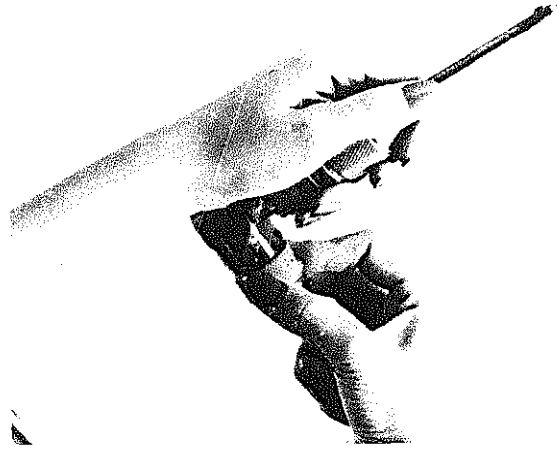

Fig. 10-32 Setting the ratchet.
1. Turn the cam ring as shown in figure 10-32. Turning the cam ring clockwise allows the bit to turn right and gives ratchet action when the handle is turned left.